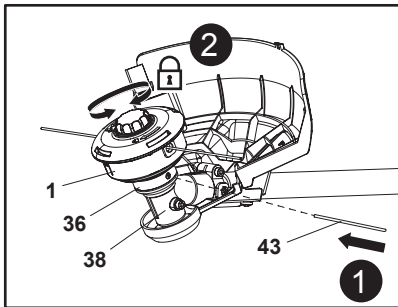

Fig. 55
1. Turn the product upside down to access the trimmer head (1).
2. Rotate the trimmer head (1) until the hole on the backing flange (36) is aligned with the notch in the gear head (38).
3. Insert the spindle lock rod (43) into the hole to lock the spindle (37) (Fig. 55, step 1).
4. Loosen the trimmer head (1) clockwise (Fig. 55, step 2) by hand and remove it from the spindle (37).